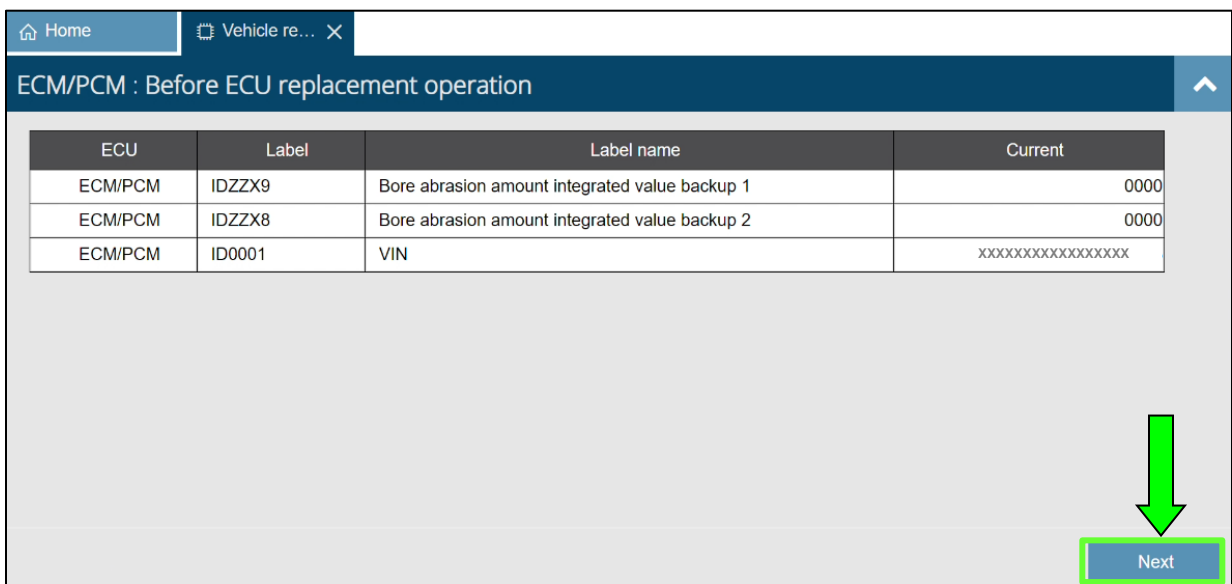

Figure 22
- When the screen shown in Figure 22 is displayed, select **Next**.